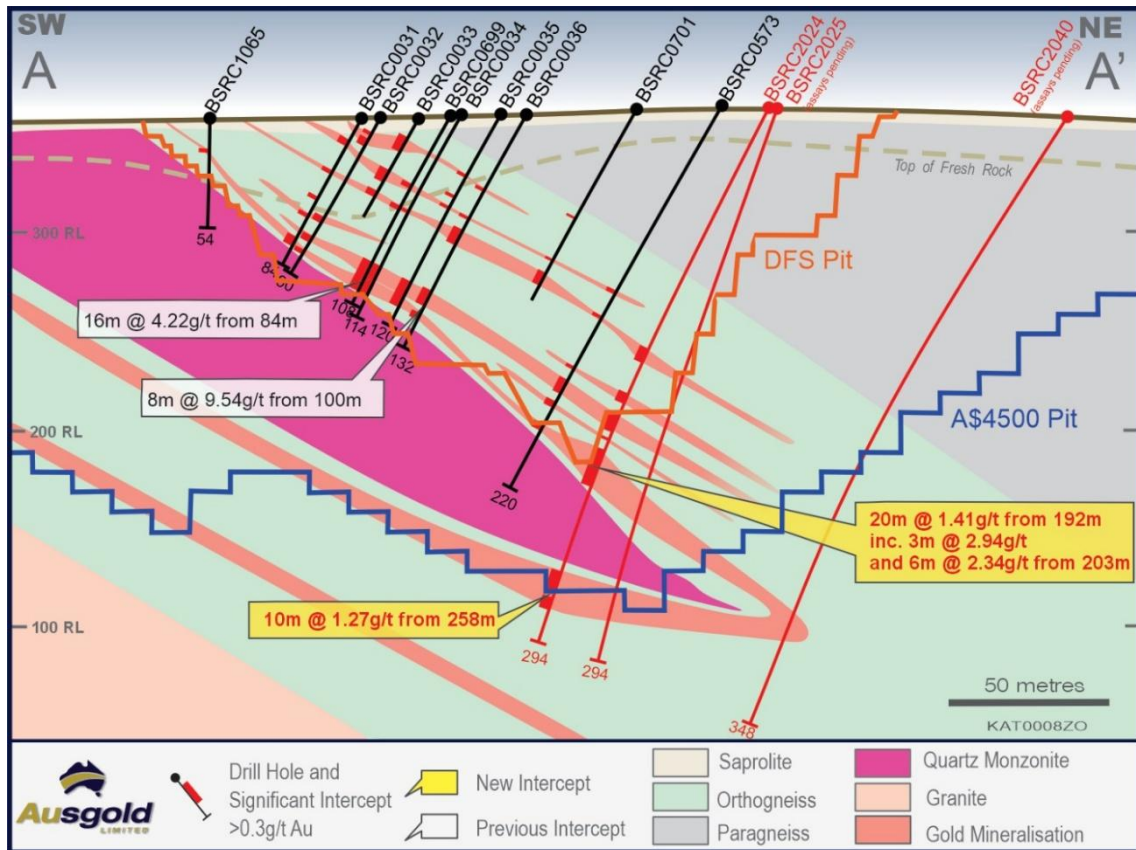

Figure 3 – Cross-section A-A' across the Jinkas-White Dam Lodes with Resource Drilling and Pits
- **20m @ 1.41g/t from 192m including 3m @ 2.94g/t from 192m and 6m @ 2.34g/t from 203m in BSRC2024 (Figure 3)**